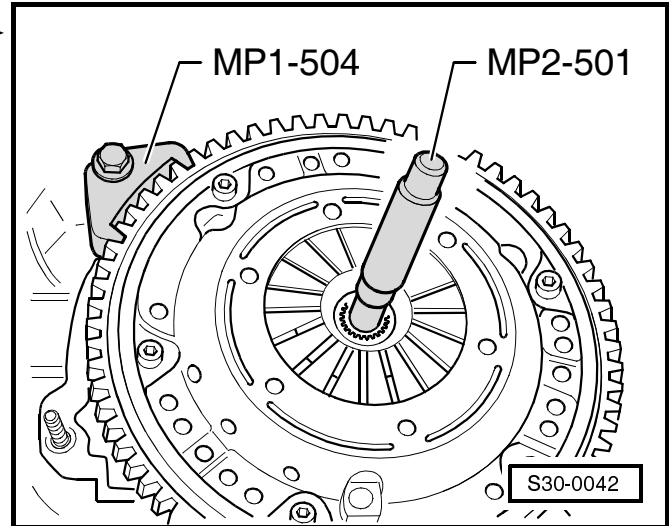

Fig. 2: Tighten gradually in the prescribed sequence.
- removing and installing ⇒ Fig. 2 in **30-3** page 2